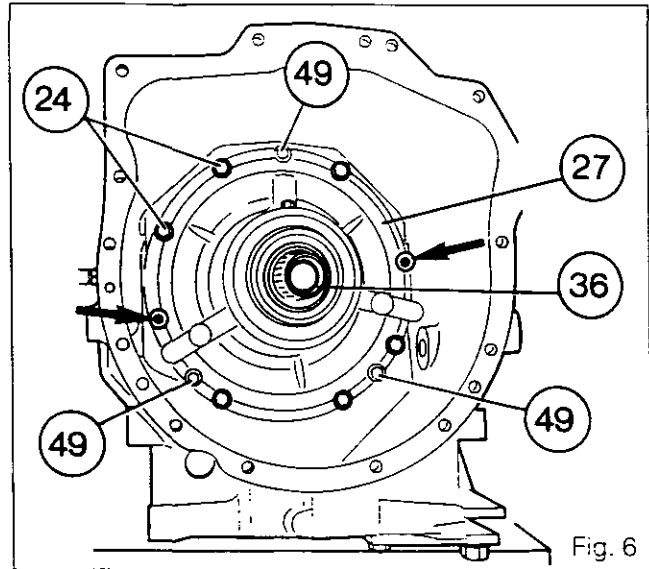

Fig. 6
4. Withdraw seal (52).
7. Unscrew bolts (24) (Fig.6).
8. Screw two pilot pins into the gearbox housing in diametrically opposed positions (Fig.6).
9. Unscrew the three bolts (49) a little at a time, taking them in order (Fig.6).
10. Remove cover (27) together with shaft (36) (Fig.6). Discard O-rings (1) and (2), (19) and (51).
11. Take out disc (21), pressure plate (20), Belleville spring disc (18) and planetary carrier assembly (50).